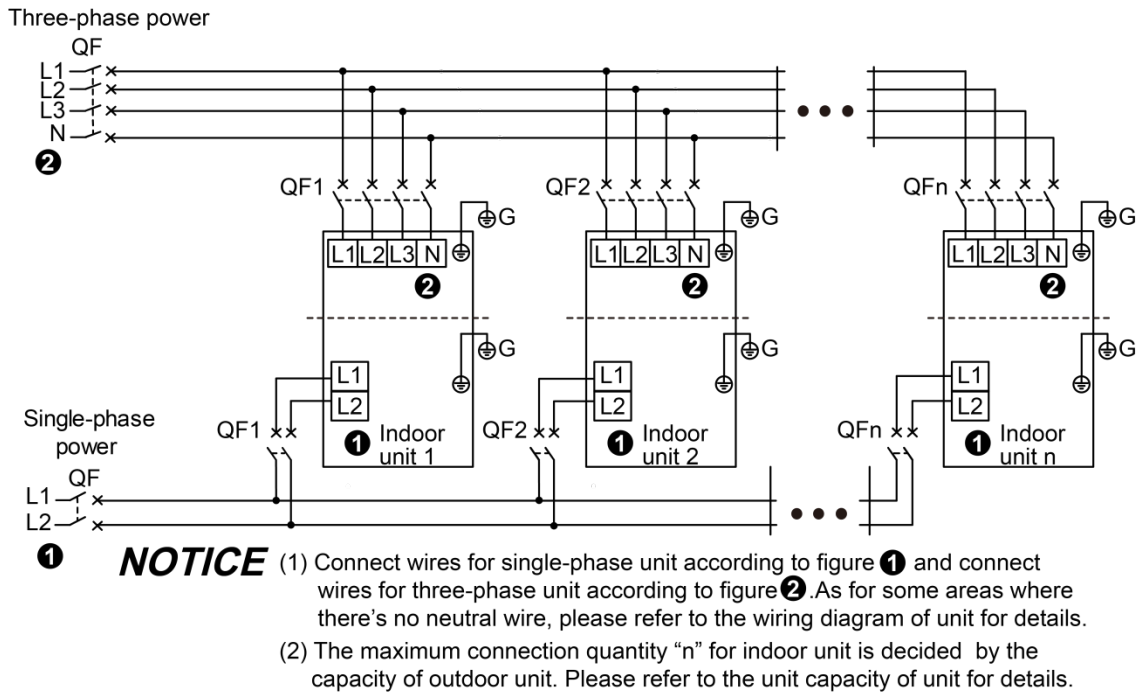

Fig.5.2.1
- (1) Detach the electric box lid.
- (2) Let the power cord pass through the wiring through-holes.
- (3) Connect wires according to Fig. 5.2.1.
- (4) Fix the power cord with wiring clamp.
- (5) The wire diameter of power cord can't be less than 18AWG.